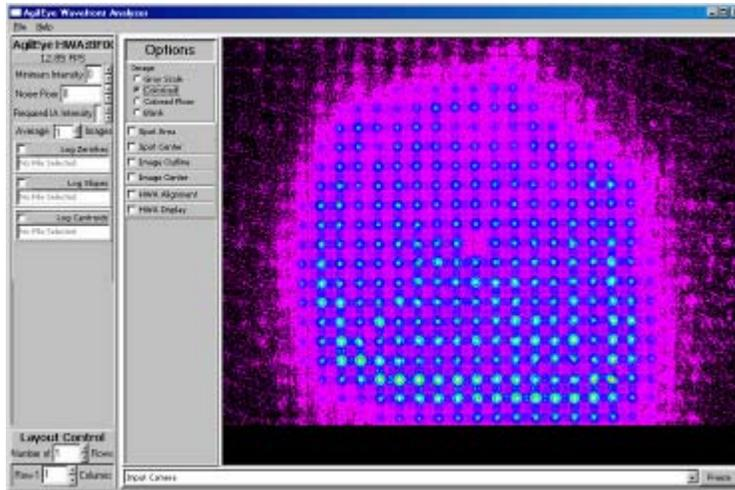

Figure 29. The Input Camera with a Colorized image
6. As you can see, a number of options have appeared on the left side of the GUI. Right now, only **Gray Scale** is selected under the **Image** sub-menu. Let's see what **Colorized** does. Select **Colorized** under the **Image** sub-menu. You should see similar colors to Figure 29.